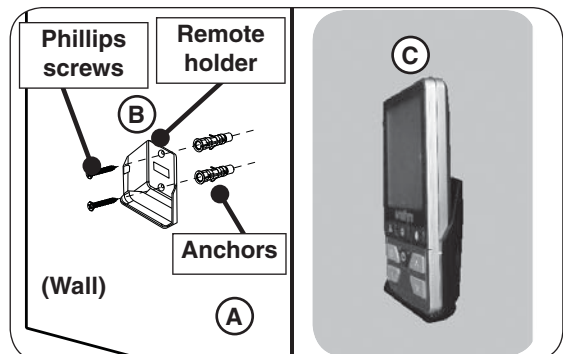

Fig. 28-4 Install wall mount remote holder
2. Drill pilot holes and insert the supplied anchors (see Fig 28-4, A).
3. Place the remote holder and fasten to the wall using the provided Phillips screws (see Fig 28-4, B).
4. Insert the remote transmitter (see Fig 28-4, C). Store in holder whenever not in use.